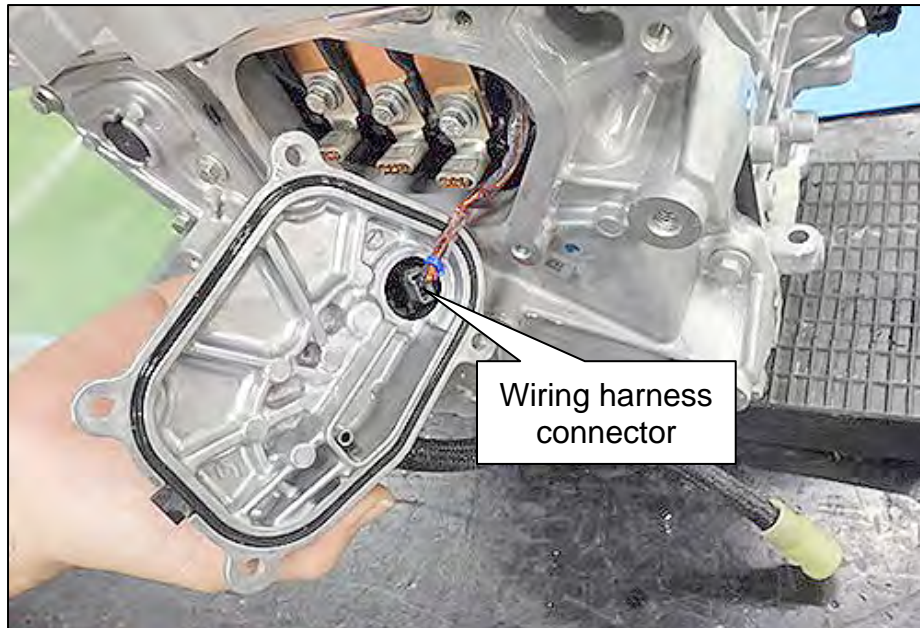

Figure 99
- Refer to Figure 99 on page 51.